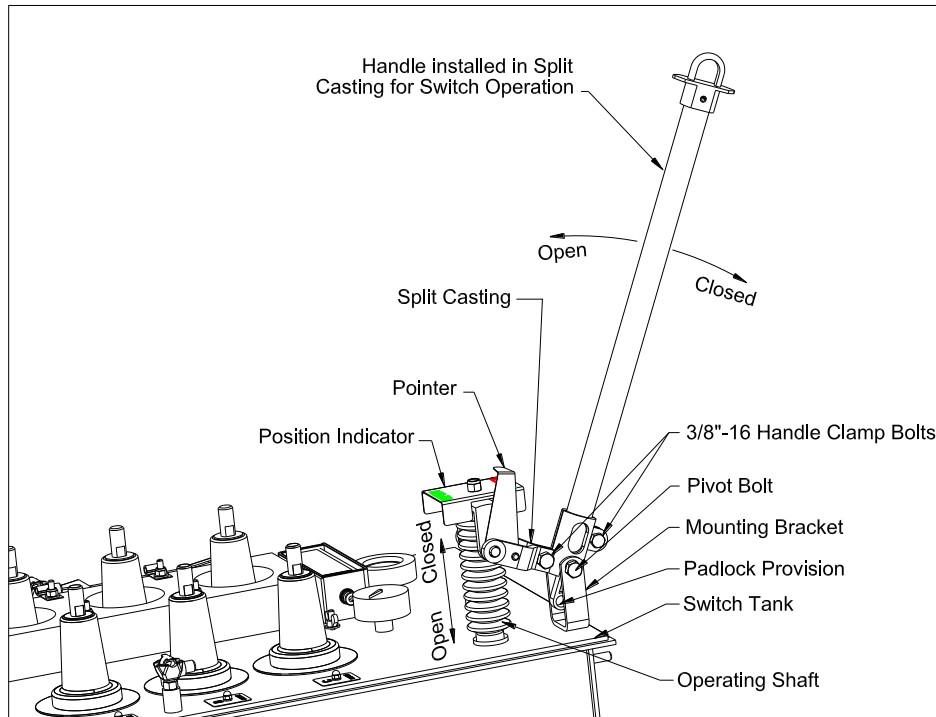

Figure 3: Operating Handle for Subsurface SF6 Switches
5.2.2. Permanent handle installation (see figure 3).
The following instruction outlines the steps required to install the operating handles. Refer to figure 3 for orientation and identification of parts.